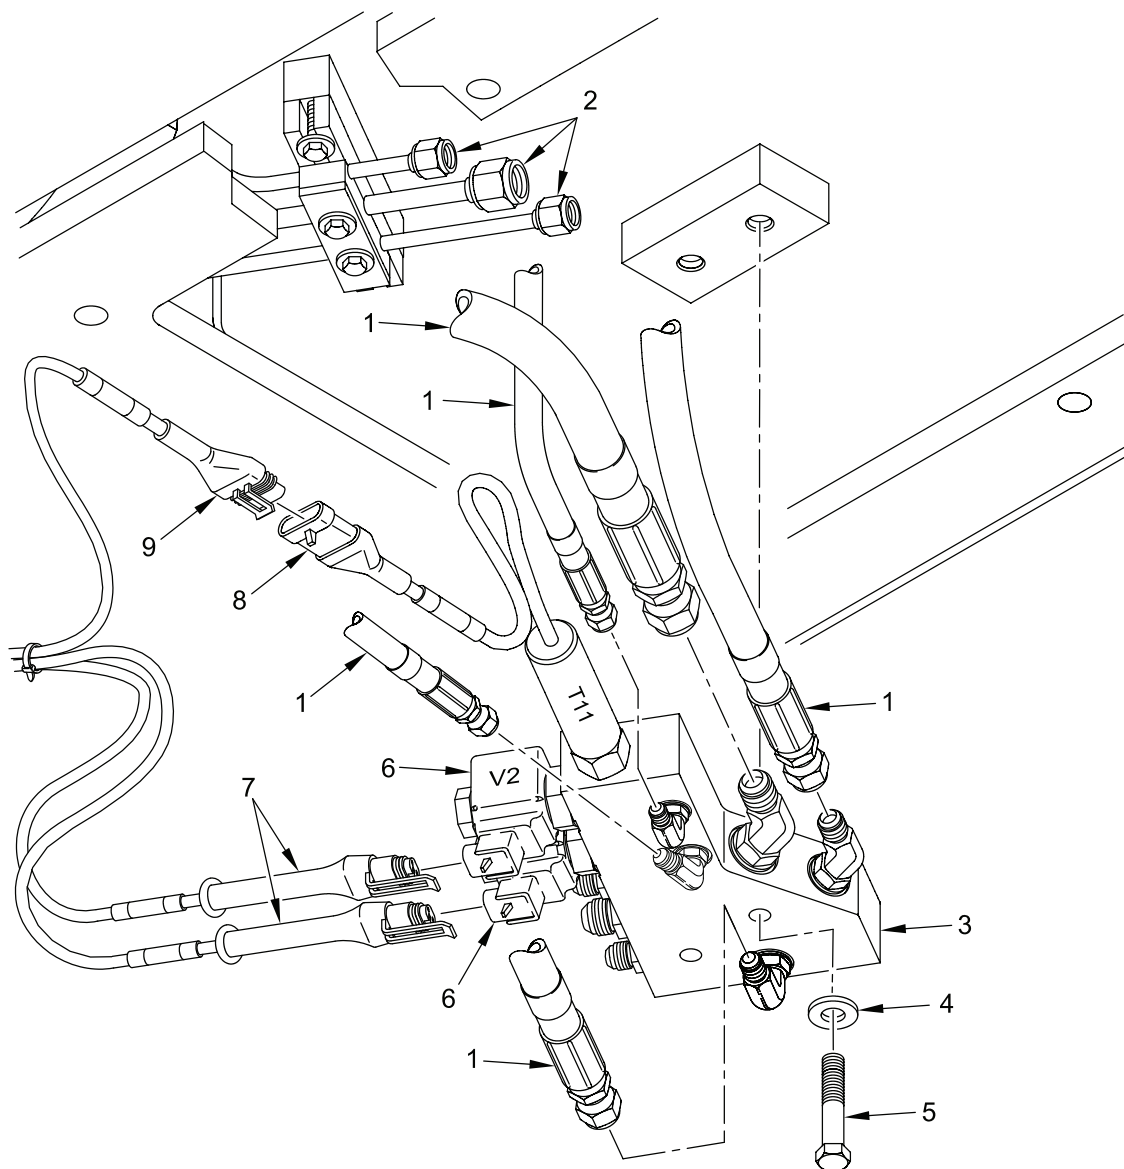

Figure 1. Removing HDC Forward Right Manifold
1. Remove five hydraulic hoses (Figure 1, item 1) and three hydraulic tubes (Figure 1, item 2) from forward right manifold (Figure 1, item 3).
2. Remove wiring harness W3 connectors P2 and P10 (Figure 1, item 7) from two two-way (NO) valves V2 and V10 (Figure 1, item 6), and wiring harness W3 connector P11 (Figure 1, item 9) from transducer T11 (Figure 1, item 8).
3. Remove two self-locking screws (Figure 1, item 5), two flat washers (Figure 1, item 4), and forward right manifold (Figure 1, item 3) from vehicle. Discard screws.